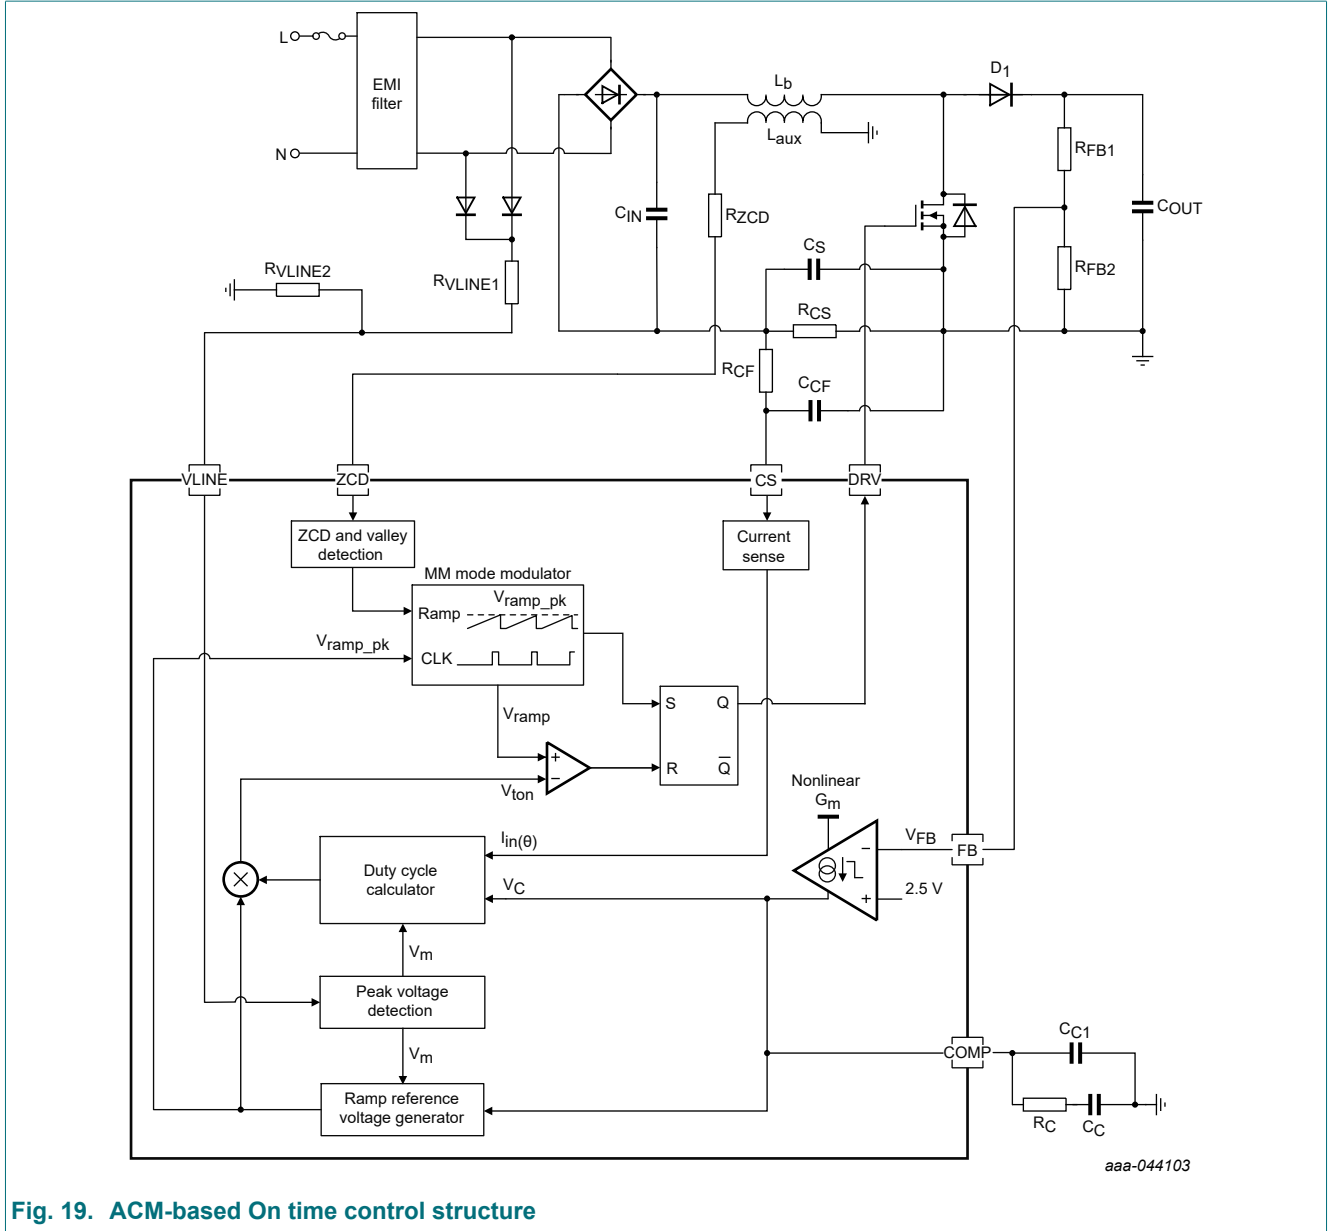

Fig. 19. ACM-based On time control structure
Fig. 19 shows the control structure of ACM-based On time control method.
According to equation (3) and Fig. 19, based on the ACM control, the On time is given by